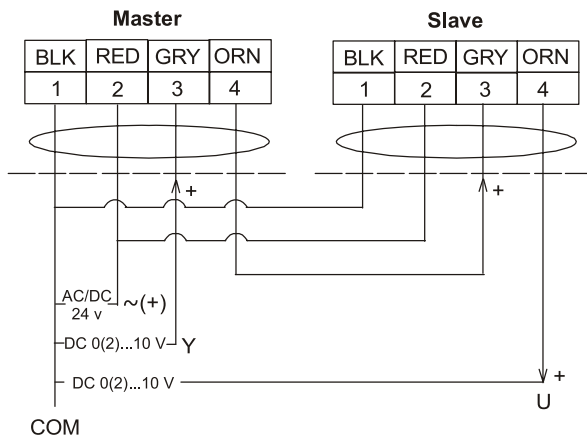
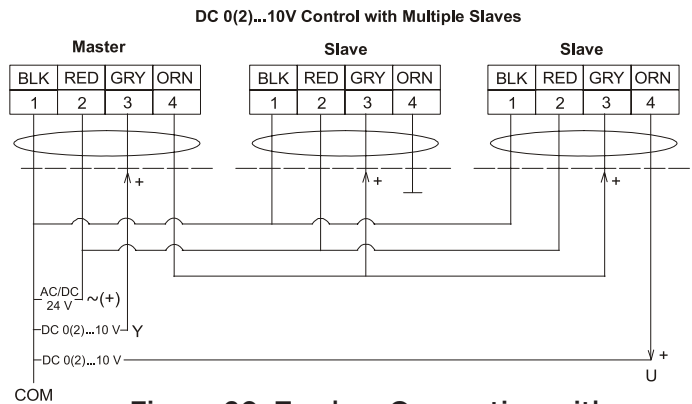

Figure 18: Tandem Connection
Figure 20: Tandem Connection with Three Actuators
The tandem configuration (Figure 18 and Figure 20) provides twice (with two actuators) or triple (with three actuators) the running and spring return torque of a single actuator, or 354 lb·in (40 N·m), 531 lb·in (60 N·m). The actuators may be mounted in tandem using the M9000-158 Tandem Mounting Kit. To mount a third actuator, user-configured bracketing is required.
1. Two or three DMS24-180 Series actuators may be operated in tandem on the same shaft. If mounting two actuators, see Figure 18 ; for three actuators, see Figure 20.